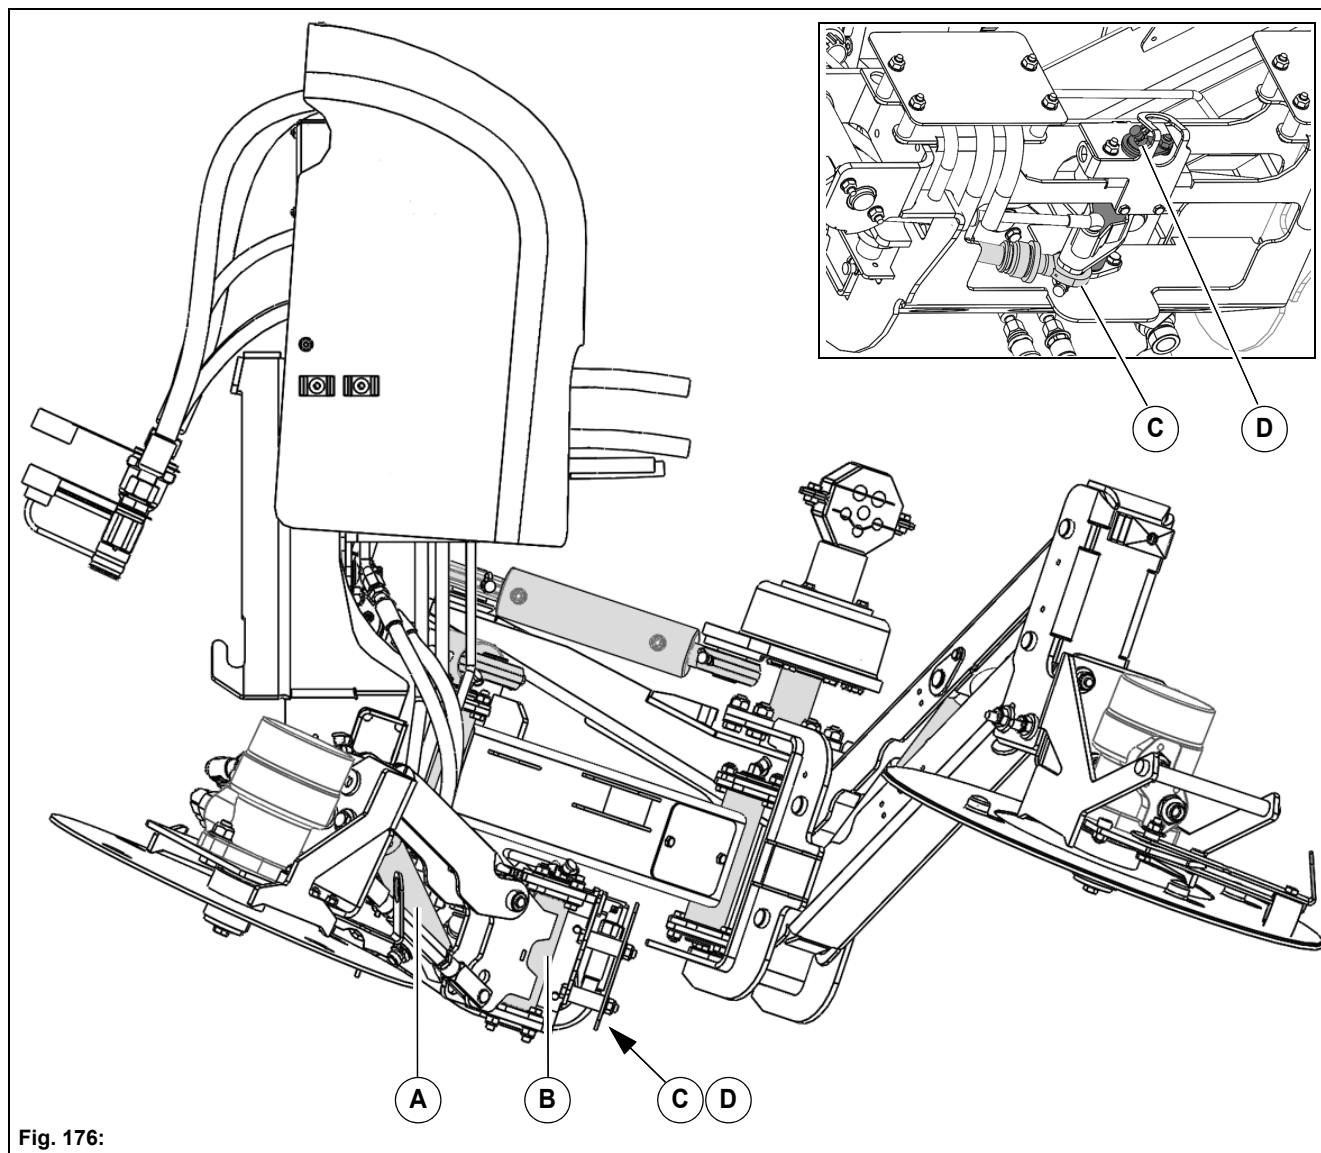

Fig. 176:
- at the hydraulic cylinders on the left and right **Fig. 176-A** (x4)
- at the bearing bolts in the left and right panel **Fig. 176-B** (x2)
- at the hydraulic cylinder for the sweeping width **Fig. 176-C** (x2)
- at the bearing bolts in the rocker **Fig. 176-D** (x1)